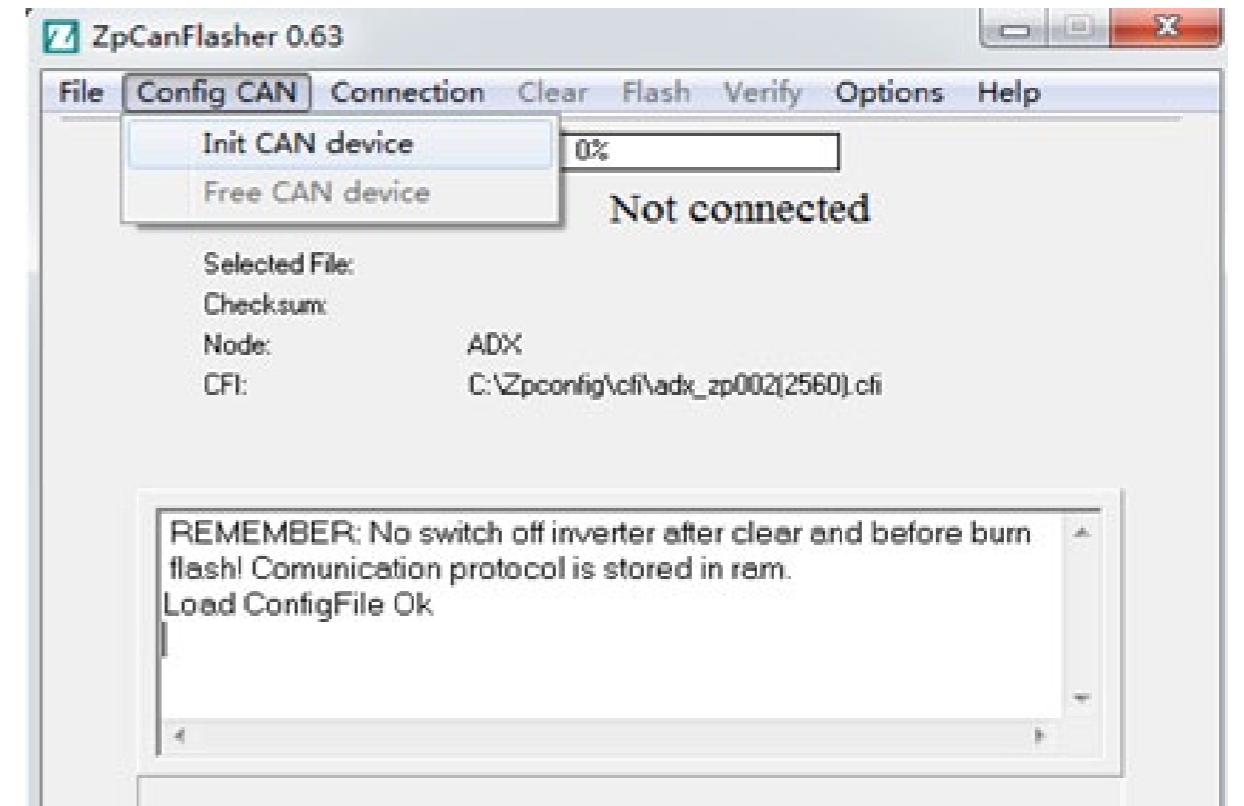

Fig.1.1.6
4. Click Config CAN → Init CAN device, as shown in Fig. 1.1.6.